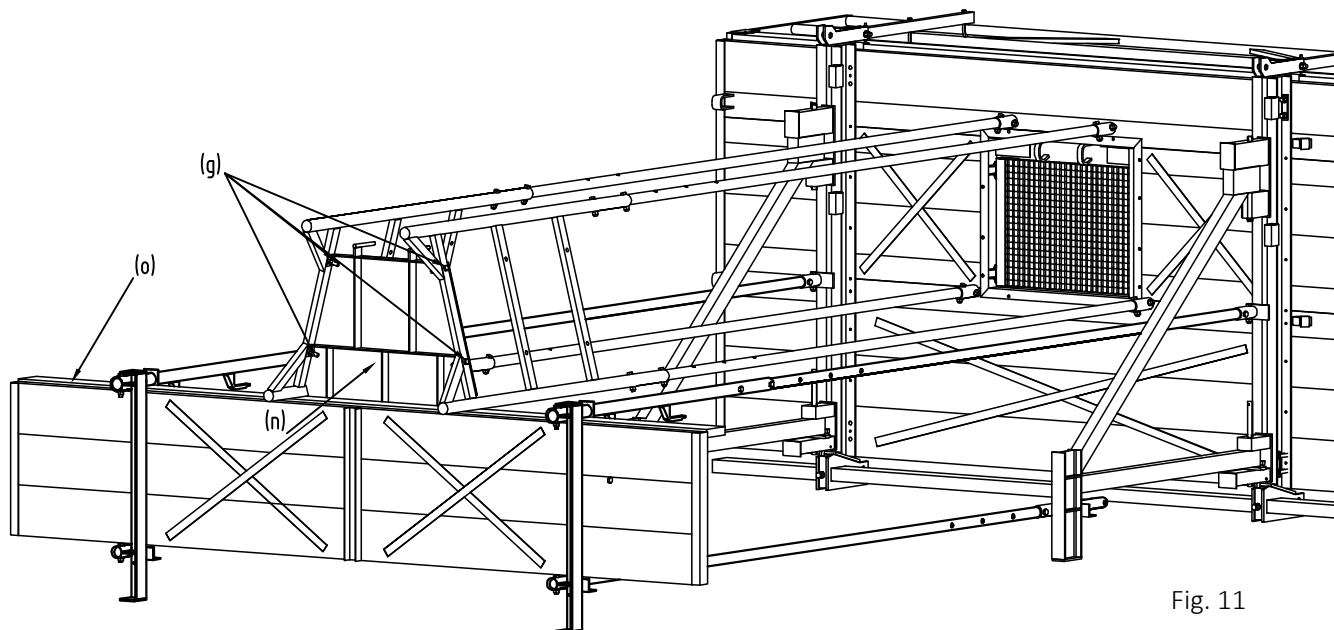

Fig. 11
- 11 Fasten board (o) to the lower platform. Bolt the floor (n) of the ladder ascent to the side parts with 4 bolts M16x80 (g). The floor of the ladder ascent must be above the floor of the lower platform (see Fig. 11).